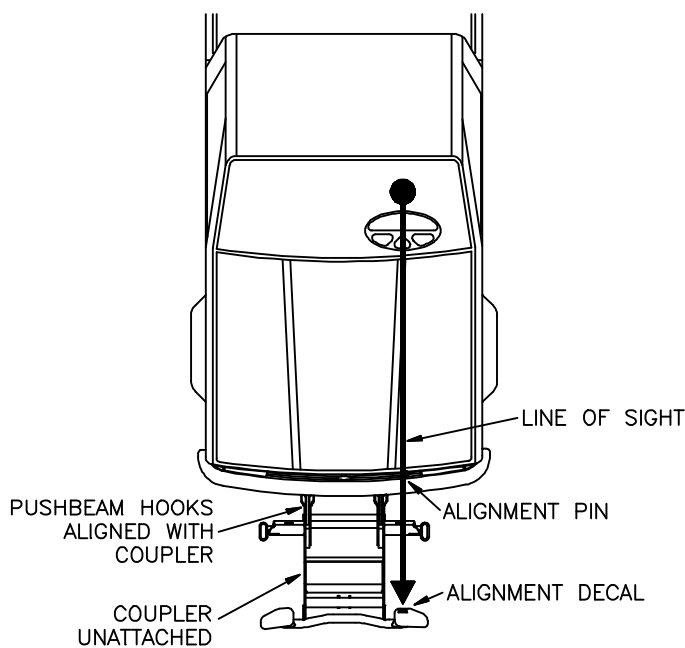

Figure 2. Alignment System Locations
2. Sit inside truck in a normal driving position. Locate a spot for Sight Pin (1) on truck hood directly behind the plow driver side headlight. See Figure 2.
3. Use a piece of tape to temporarily attach Sight Pin (1) to truck grille or underside of truck hood at the spot you located in the previous step.
4. Use a piece of tape to attach Sight Decal (2) to back side of plow driver side headlight. The center "V" shape of Sight Decal (2) should be aligned with Sight Pin (1) when you are sitting in your normal driving position inside the truck.
5. Check alignment of Sight Pin (1) and Sight Decal (2) from inside truck. Adjust as necessary.